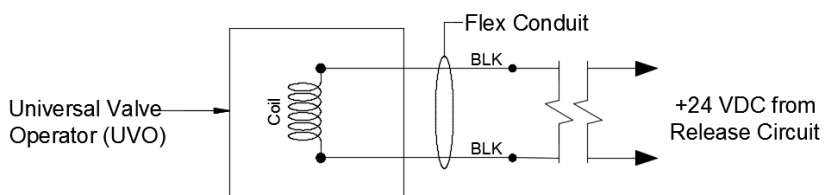

Figure 76 – Universal Valve Operator Wiring Diagram
- Step 7. Install conduit from item 1 and item 3 to the control panel.
- Step 8. Pull wire leads from item 1 and item 3 through the conduit and connect it to the control units releasing circuit and supervisory circuit respectively. See Figures 76 and 77.
- Step 9. Insert item 1 into the cylinder valve actuator port and secure in place with item 3.
- Step 10. Install items 4, 5 and 6 to the last pneumatic actuator in the cylinder bank. See Section 4.13.8 for installation instructions.